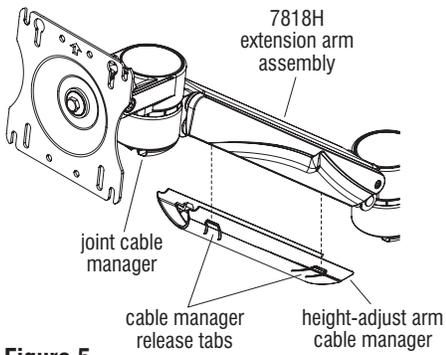

Figure 5
9. To remove the height-adjust arm cable manager, pinch the two release tabs on the cable manager located on the underside of the 7818H extension arm assembly (Figure 5).